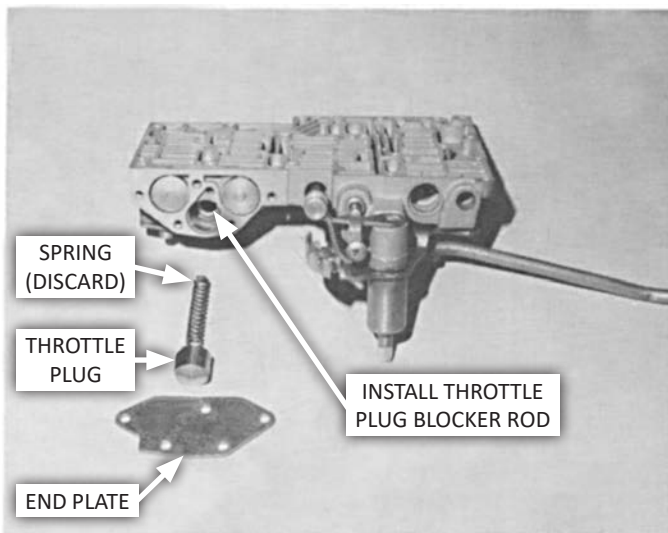

FIG. 7 (STREET/STRIP ONLY)
Street/Strip: Remove the governor plug end plate (5 screws, Fig. 7).
10. Install the B&M throttle plug blocker rod into the valve bore (Fig. 7), followed by the shuttle valve throttle plug. The plug must sit flush to, or slightly below, the surface of the casting to prevent leaks. Place the end plate against the casting. It should sit flat against the casting with thumb pressure only. If you cannot hold the plate flat against the slight spring tension of the shift valves, the blocker rod is too